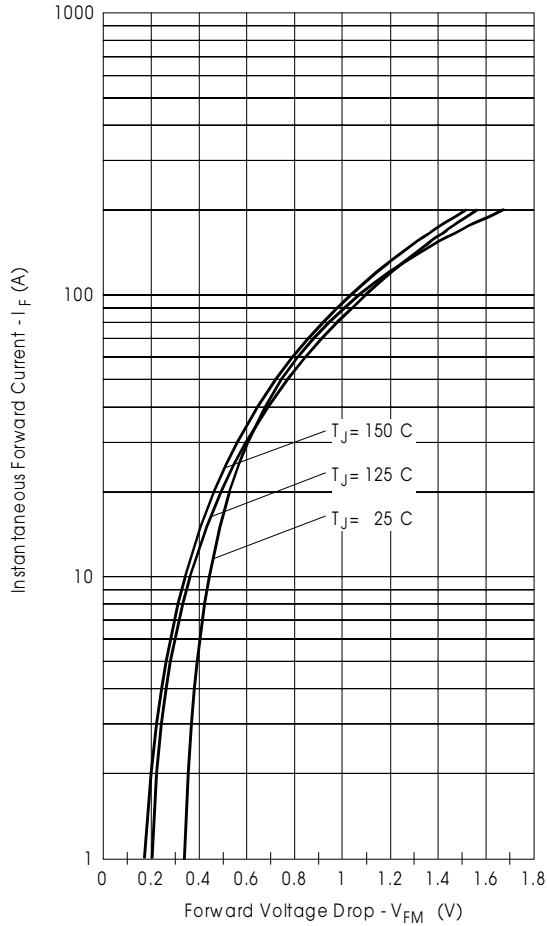

Fig. 1 - Max. Forward Voltage Drop Characteristics (Per Leg)
V_{FM} Forward Voltage Drop (Per Leg) * See Fig. 1 (1)	Typ. Max.